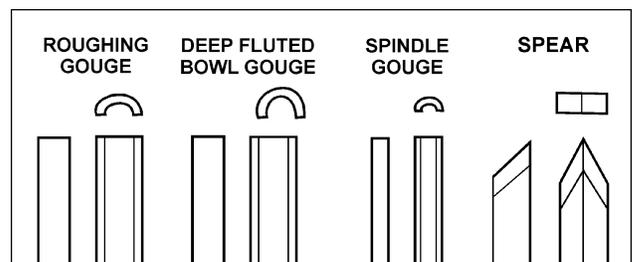

Fig. 10
**Roughing Gouge** — used for rapidly cut raw wood into round stock, see Figure 10.
**Deep Fluted Bowl Gouge** — used for turning bowls and plates, see Figure 10.
**Spindle Gouge** — used for turning beads, coves and other details, see Figure 10.
**Spear** — fine scraping and delicate operations, such as the forming of beads, parallel grooves and shallow vees, etc, see Figure 10.